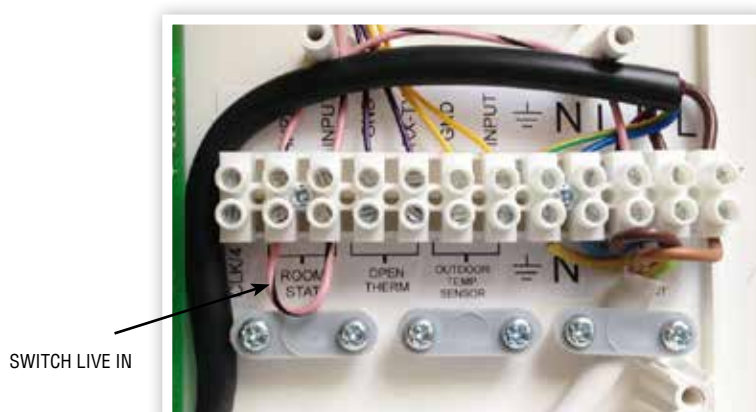

FIGURE 21. ELECTRICAL CONNECTIONS
- 12.4.6 Connect wires to terminal block, switch live goes to terminal 2. See Figure 21.